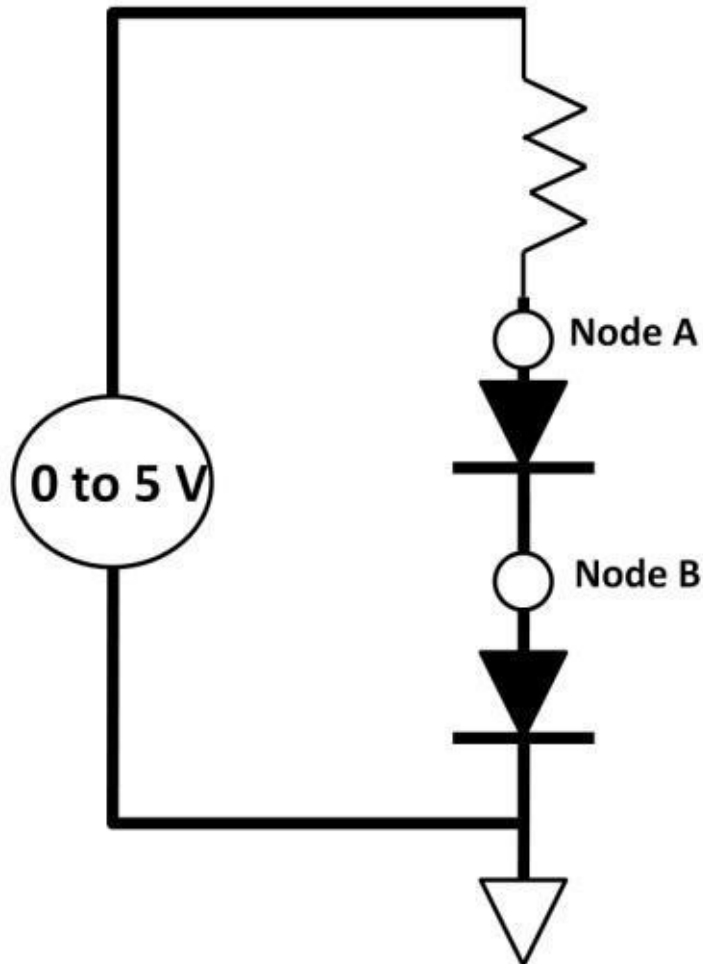

Figure 2.13: Diode circuit
- 2) Draw a DC graph of nodes A and B during 0 V to 5 V (DC sweep) using the diode circuit (see figure 2.13). Assume forward-biased voltages are 1 V.
4) Using figure 2.13, at 5 V DC, draw a DC sweep graph of nodes A and B over temperature ranging from $-40\text{ }^{\circ}\text{C}$ to $+125\text{ }^{\circ}\text{C}$ (see figure 2.14). The temperature coefficient of both diodes is $-2\text{ mV}/^{\circ}\text{C}$.